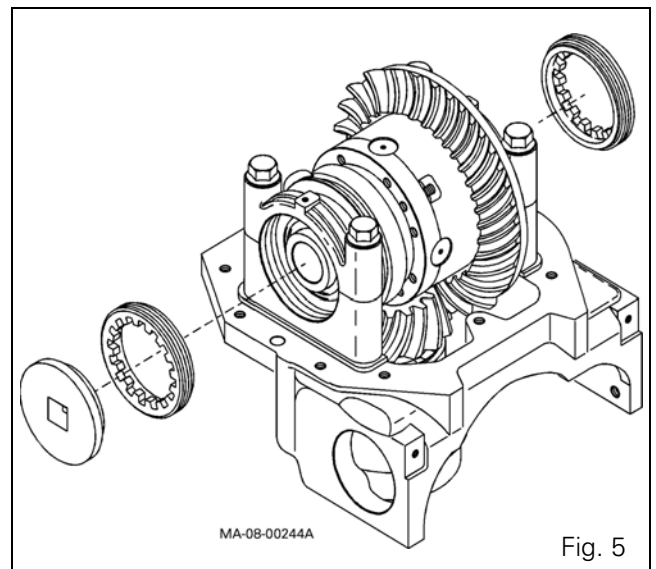

Fig. 5
10. Loosen the adjusting ring nuts using the tools ref. CA119030 (see § J) and CA119149 (see § J) (Fig. 5).